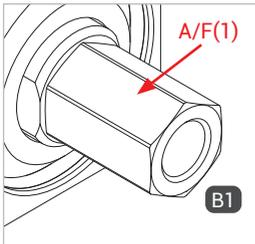

Figure 1
- ▶ When mounting the media inlet 'B1', hold an open-ended spanner against the spanner flat A/F(1) (Figure 1).
- ▶ Screw the 'B1' media inlet pressure-tight to the port for the media line (Figure 1).